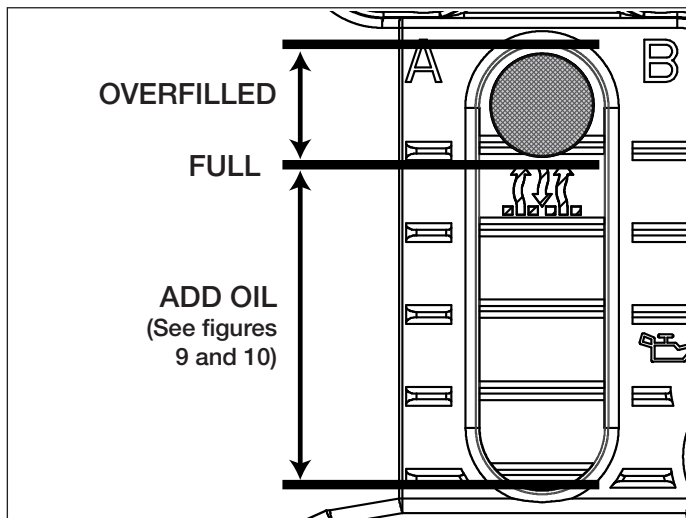

Figure 8, Oil Level Indicator
4. Check the oil level indicator. Verify that the oil level is up to the full mark. Refer to Figure 8.
11. Check the oil level indicator. Verify that the oil level is up to the FULL mark and that the reservoir is not overfilled. Refer to Figure 8.